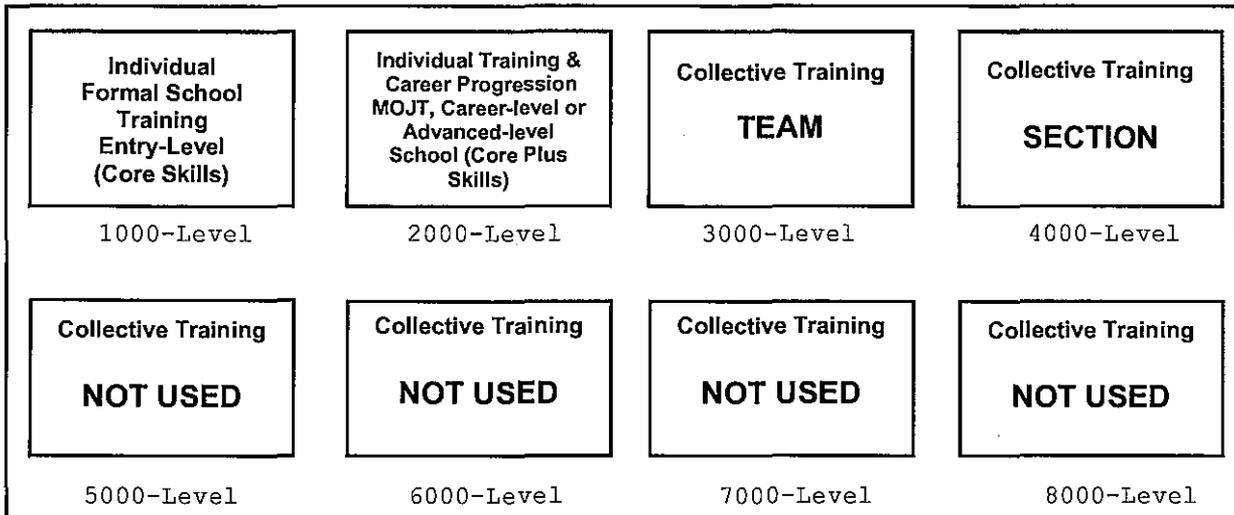
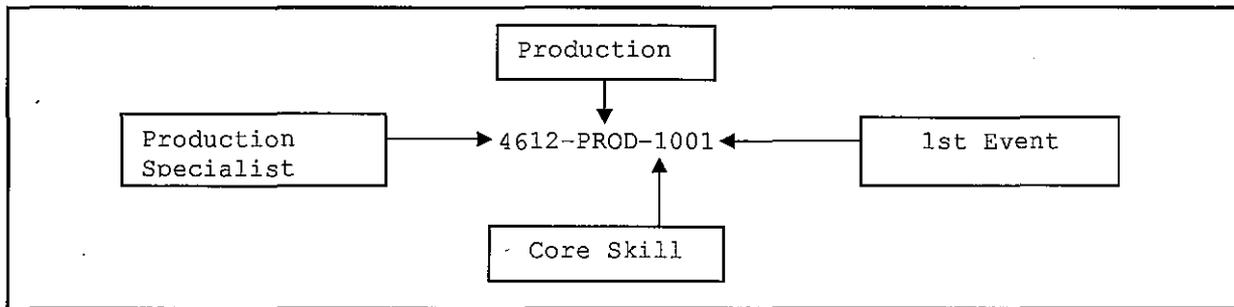

Figure 1: T&R Event Levels
Figure 2: T&R Event Coding
2. The T&R levels are illustrated in Figure 1. An example of the T&R coding used in this manual is shown in Figure 2.